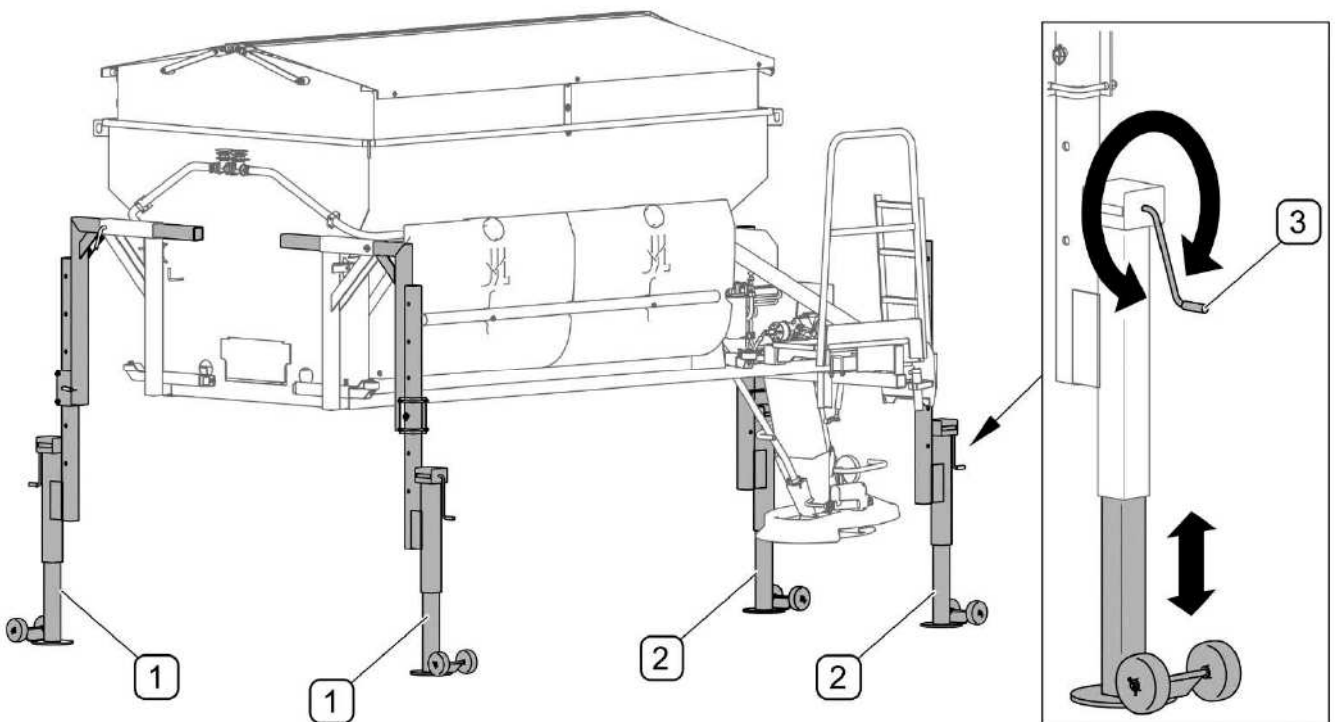

FIG. 4.1 Parking stands (option)
(1) - front parking stand; (2) - rear parking stand; (3) - height adjustment mechanism
If the sand spreader is equipped with adjustable parking stands (FIG. 4.1), adjust the stands properly depending on the height of the carrying vehicle's load platform. Adjustments can be made using crank mechanism (3).
- Lower the machine onto the carrying vehicle's load platform by rising successively the parking stands by means of height adjustment mechanism (3) (FIG. 4.1).